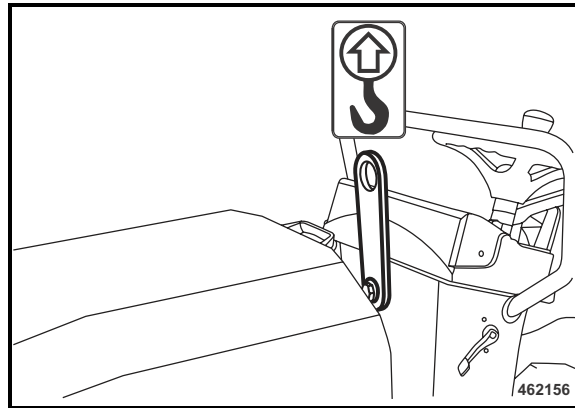

Fig. 108
- Use the central lifting facility (Fig. 108) to lift the machine.